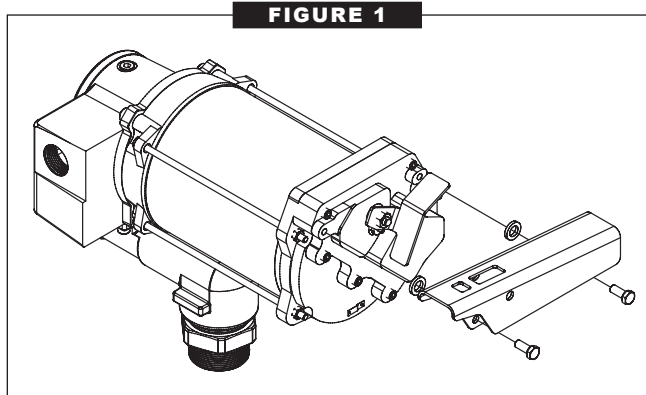

FIGURE 1
3. Align the bolts with the two threaded holes on the switch coverplate; thread the bolts into the holes. Torque bolts to 45-60 in/lb (Figure 1).